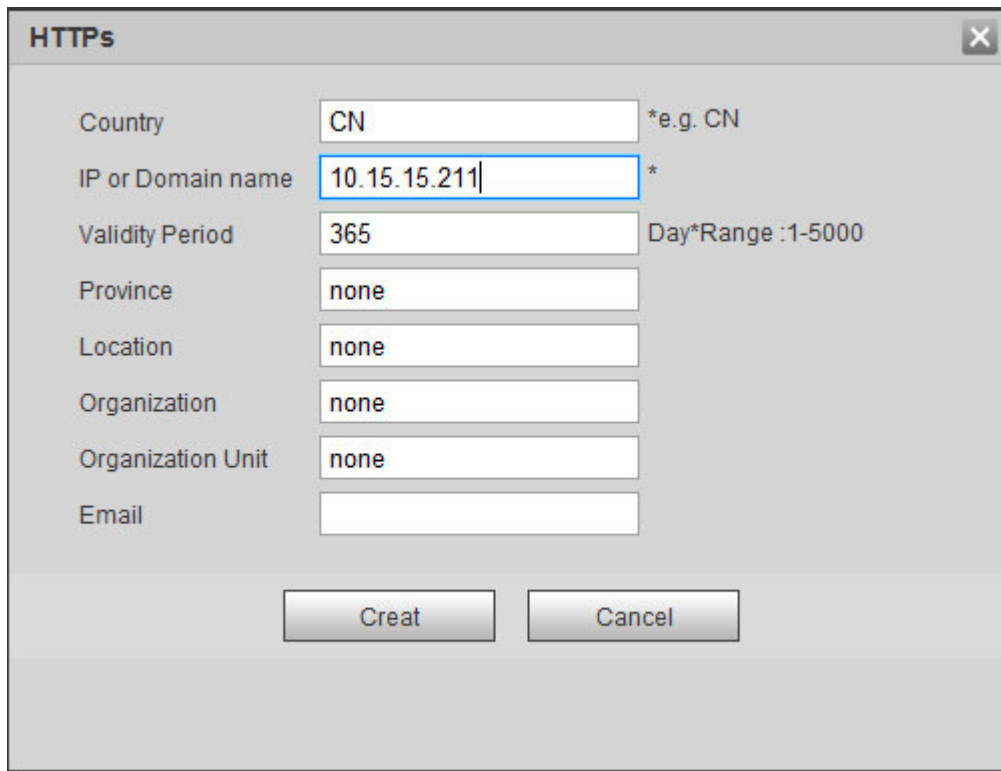

Figure 5-52
- Click “Create” and it will pop out the dialog box of “HTTPs”, which is shown in Figure 5-52.